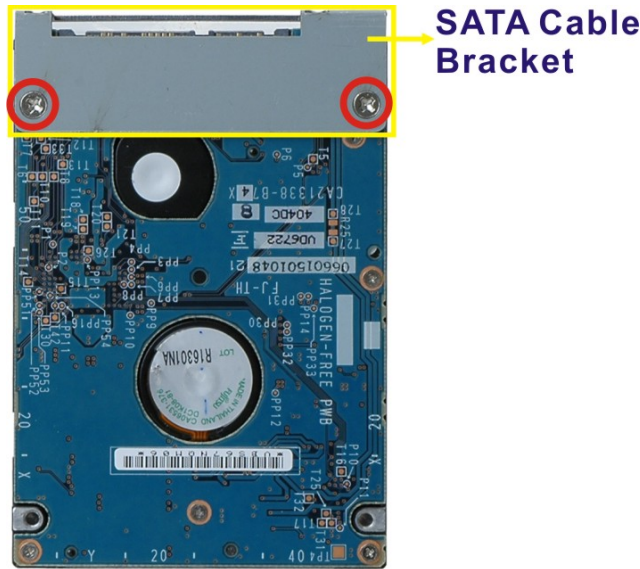

Figure 3-7: SATA Cable Bracket Retention Screws
Step 4: Attach the SATA cable bracket to the HDD. Secure the bracket with the HDD by inserting two flat head screws into the bottom of the HDD (**Figure 3-7**).